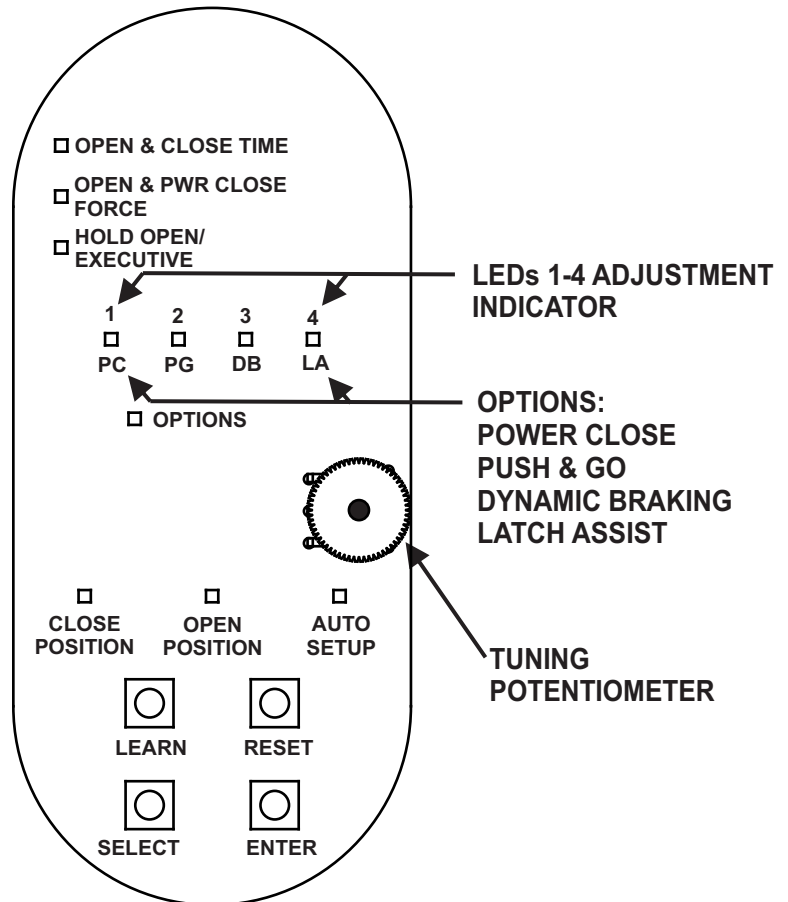

Figure 12
1. Refer to Figure 12 and, at the base of the setup board, PRESS and HOLD both “SELECT” and “ENTER” push buttons until LEDs 1 through 4 flash. The following shall occur: